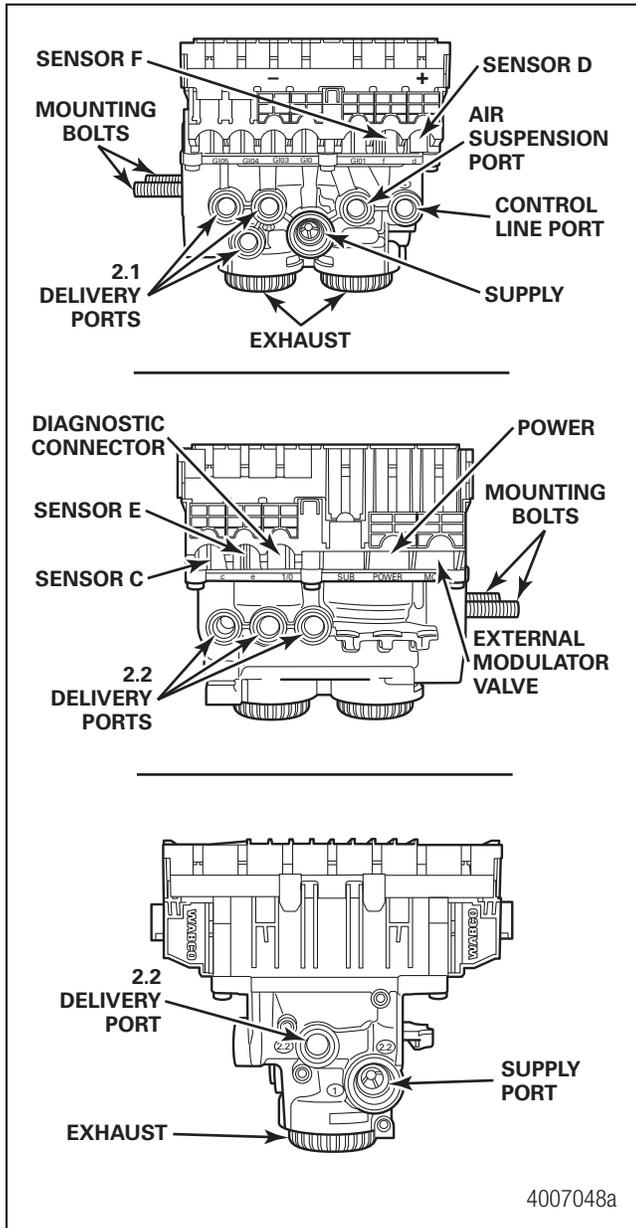

Figure 6.3
4. Disconnect the power cable, additional relay valve cable (if used), and all sensor cables from the ECU/Valve Assembly. Figure 6.3.
NOTE: When a sensor cable is not plugged into a sensor connector, the black cap must remain in the connector to protect it from dirt and contamination. Figure 6.3.
- Connect air delivery lines to the ECU valve assembly. The ports labeled 2.1 and 2.2 are 3/8-inch NPTF. Refer to Figure 6.3 for ECU valve port assignments, and Section 4 for air line configuration.